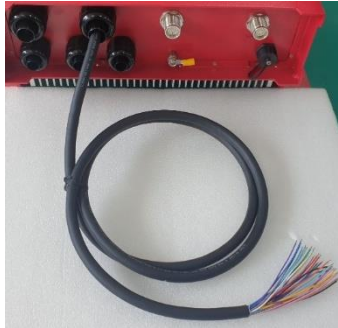

Figure 5-5: Alarm Relay Cable Connected to Repeater
4. Connect the HFC 8404 Gland connector at the serial cable to the Alarm Relay connector on the PSR, Figure 5-5. Be sure to fasten the connector screws securely.